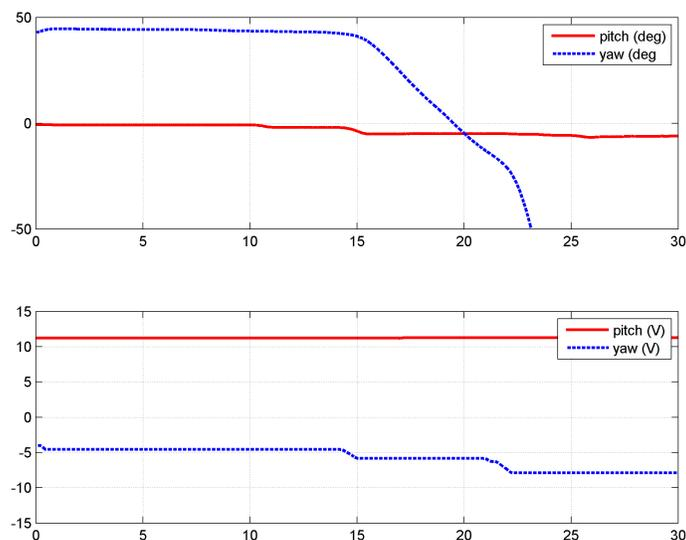

Figure 5.14: Effect of yaw on pitch
17. As depicted in Figure 5.14, applying a negative voltage to the yaw motor causes the pitch angle to decrease, i.e. the helicopter nose goes down. Similarly to the effect the pitch motor has on the yaw motion, the voltage applied to the yaw motor generates a torque on the pitch axis